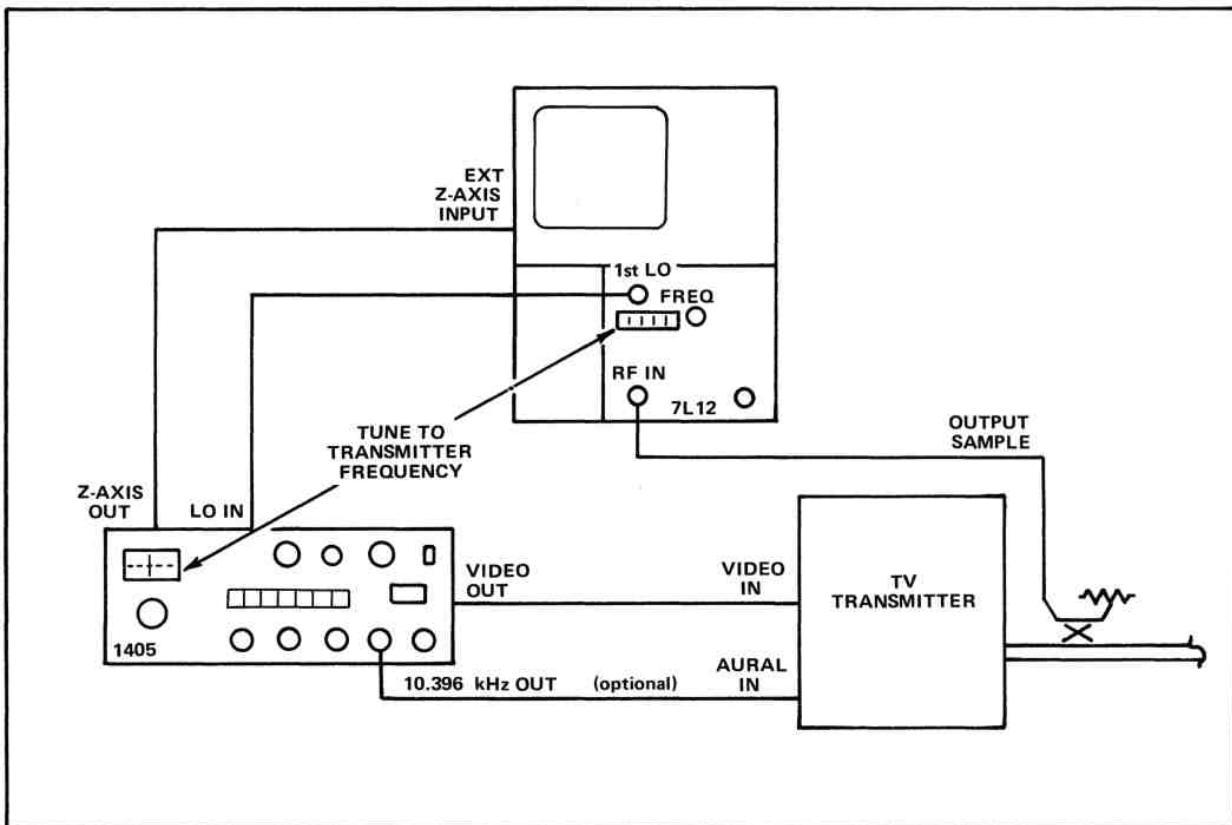

Fig. 2-2. Basic interconnections for general operation.
The basic interconnections required for general operation are shown in Fig. 2-2, and are described below.
2. Connect the 1405 to the 496 or 492 Spectrum Analyzer as directed for the 7L12, 7L13 or 7L14 and illustrated in Fig. 2-2.